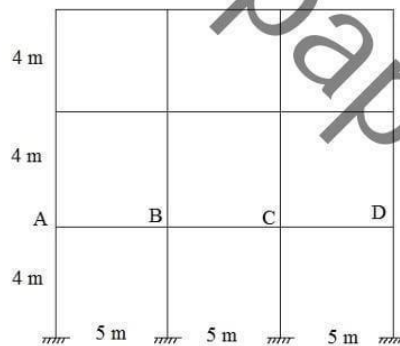

Figure 3
6. Calculate the moment at mid-span BC for portal frame shown in figure 3, if it is loaded with live loads on the spans AB and CD, in addition to the dead load. Use Substitute Frame Method. Dead load = 15 kN/m and Live load = 25 kN/m. [10]